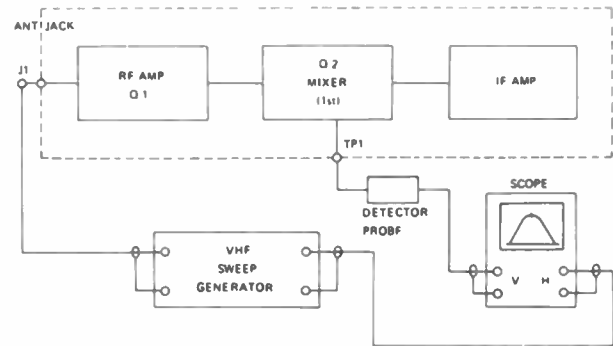

Figure 4. RF ALIGNMENT BLOCK DIAGRAM
Step 1 : Connect the instruments as shown in Figure 4.